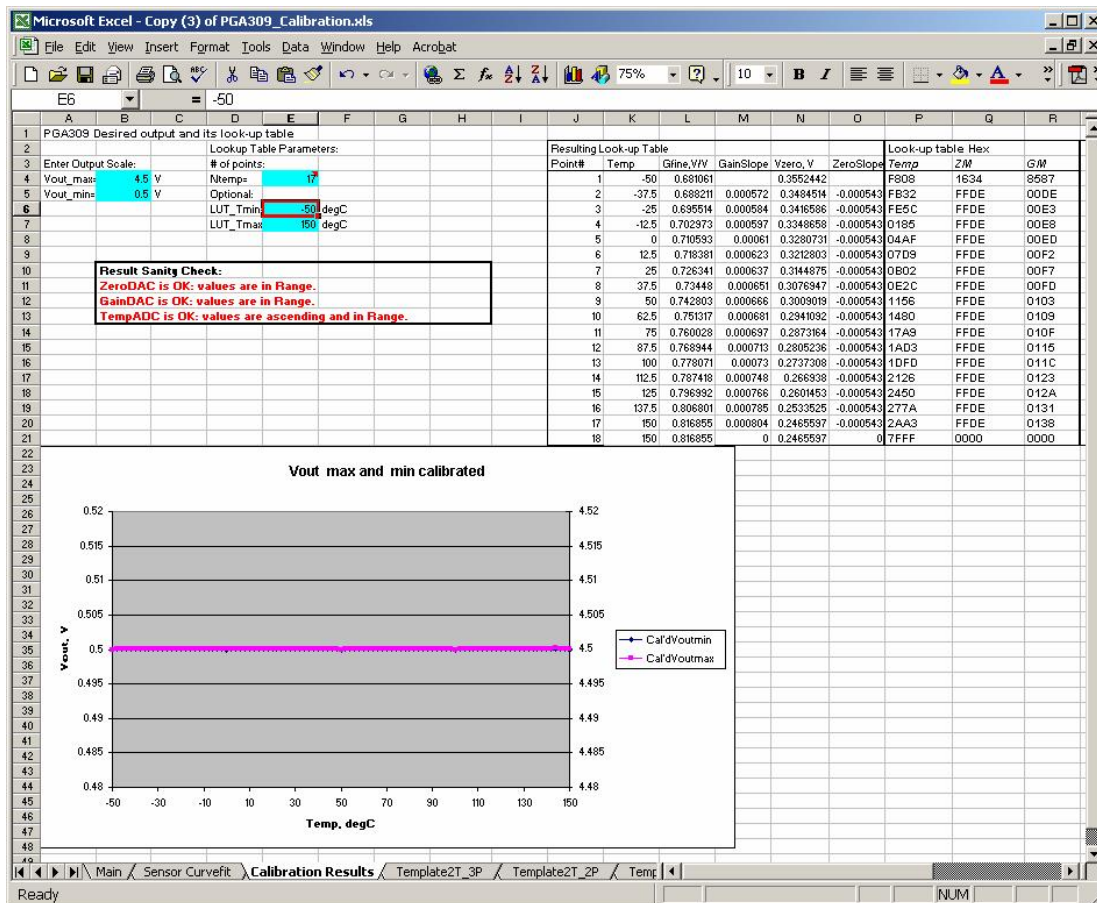

Figure 31: Calibration Results
3) The third worksheet is called "Calibration Results" (see Figure 31). It contains the calculated lookup table based on the curve-fitting coefficients from the calibration measurements. The blue fields are for the user data with the desired output voltage scale, compensation temperature range and the number of the lookup table points needed. The framed cells contain the messages about the validity of the calculated values: whether the DAC and Temp ADC values are in linear range achievable by PGA309 at all temperatures and the Table is arranged properly. The plot on the bottom shows the expected PGA309 output vs. temperature at zero and full-scale output signal.